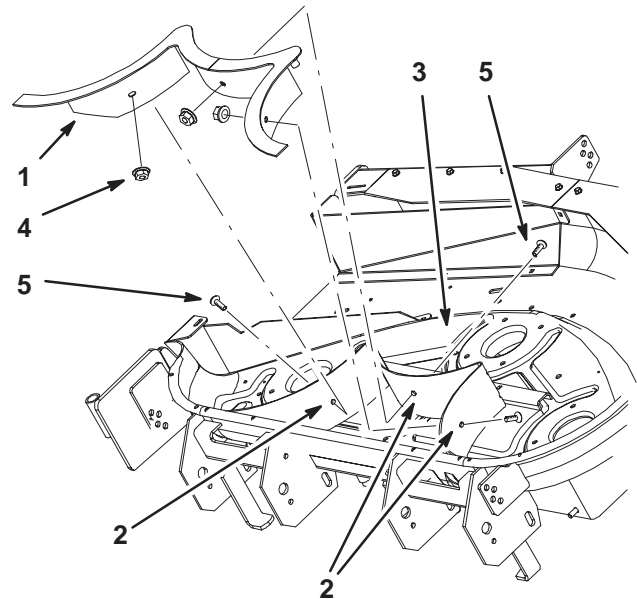

Figure 11
1. Place the center rear baffle behind the center cutting blade chamber (Fig. 11).
4. Clamp the center baffle tightly against the cutting chamber (Fig. 11).
5. Using the baffle as a template, mark, center punch and drill 1/8 inch pilot holes at the 3 locations (Fig. 11).
6. Drill 11/32 inch dia. holes through the pilot holes (Fig. 11).
7. Install the center baffle with 3 button head socket bolts (5/16 x 5/8 inch) and 3 flange nuts (5/16 inch) (Fig. 11).
Important Make sure the bolt heads are installed on the inside of the cutting chamber (Fig. 11).